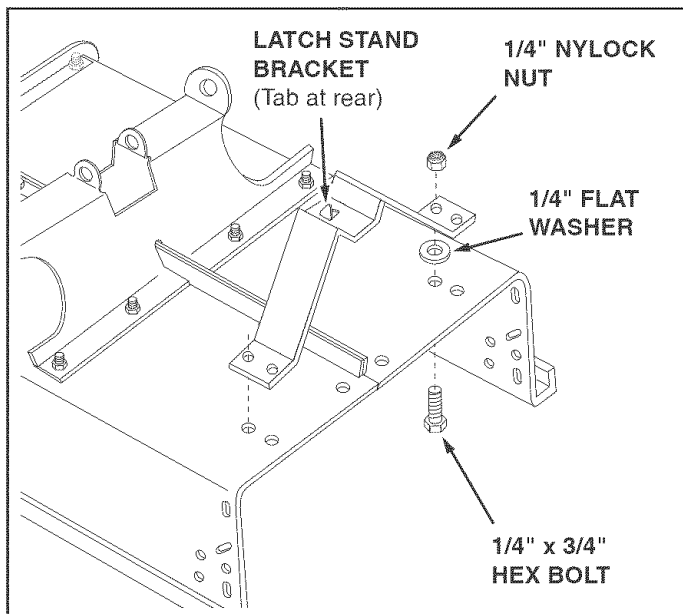

FIGURE 5
- Align the latch stand bracket so that the tab is at the rear. Fasten the bracket to the **rear** set of holes at the front of the cart, leaving the front holes empty for now. Use two 1/4" x 3/4" hex bolts, 1/4" flat washers and 1/4" nylock nuts. Use the 1/4" flat washers as shims between the bracket and the cart bed. **Make only finger tight** at this time. See figure 5.